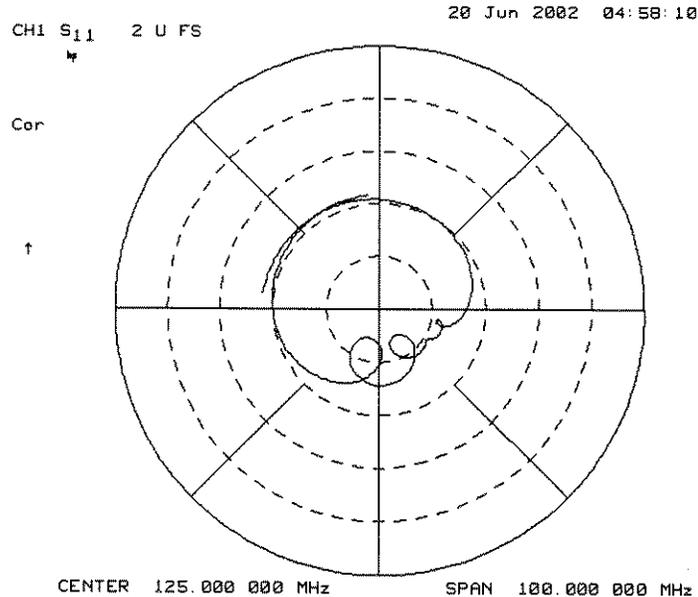

Figure 2-14.
2. Press **SCALE REF** **AUTO SCALE** to reposition the trace, as shown in Figure 2-14.
The analyzer shows the results of an S_{11} measurement with each point on the polar trace corresponding to a particular value of both magnitude and phase. The center of the circle represents a coefficient (Γ) of 0, (that is, a perfect match or no reflected signal). The outermost circumference of the scale shown in Figure 2-14 represents $\rho = 2.00$, or 200% reflection. The phase angle is read directly from this display. The 3 O'clock position corresponds to zero phase angle, (that is, the reflected signal is at the same phase as the incident signal). Phase differences of 90° , 180° , and -90° correspond to the 12 O'clock, 9 O'clock, and 6 O'clock positions on the polar display, respectively.
4. Turn the front panel knob to position the marker at any desired point on the trace, then read the frequency, linear magnitude and phase in the upper right hand corner of the display, as shown in Figure 2-14.